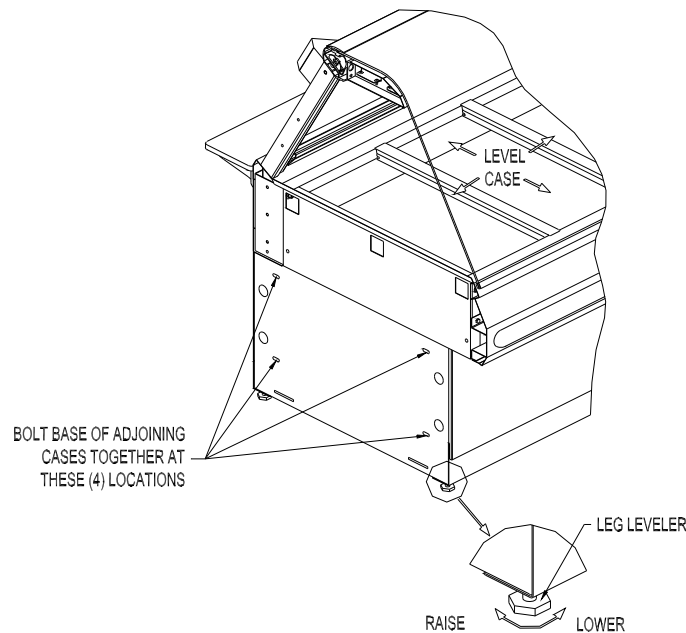

Figure 1. Floor Models - Leveling
Deli cases must be installed level to insure proper operation and alignment to adjoining equipment. Use a carpenter's level as shown in Figure 1. Begin lineup leveling from the highest point of the store floor.
1. Level the case using the leg levelers at the corners of the case (Figure 1).
6. When level, bolt the two cases together at the locations shown in Figure 1.